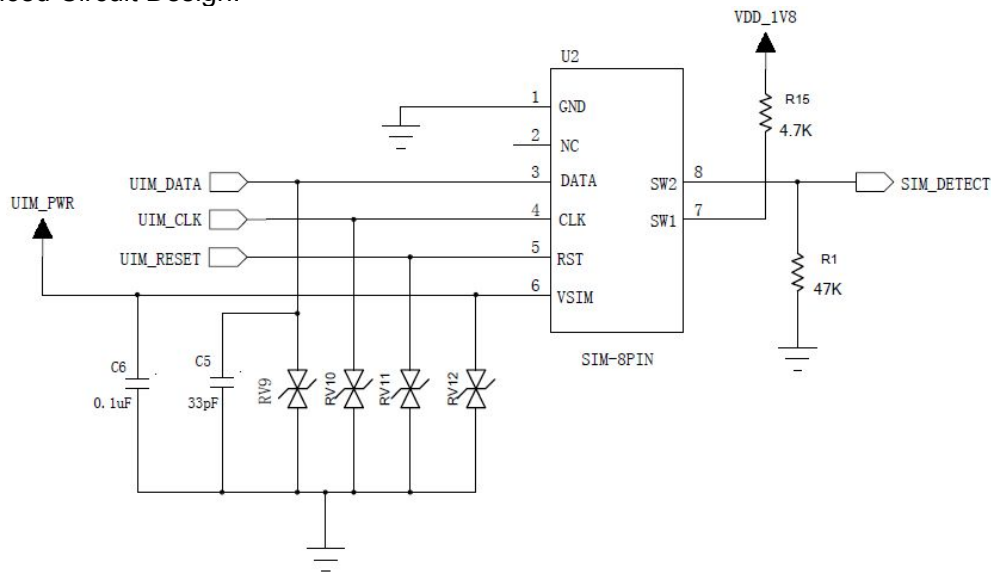

Figure5-8 “Reference Design of “Normally open” SIM Card Interface
- 2) For “normally open” SIM card, as shown in Figure 5-8. SIM\_DETECT signal connects Pin8 (SW2) of U2 and pull down to ground through 47Kohm resistance. Pin 7 (SW1) shall be pulled up with 4.7Kohms. SW2 and SW1 is disconnected while SIM card is not inserted, so SW2 is low level. SW1 and SW2 is short-circuiting while SIM card installed, SIM\_DETECT is pulled high.